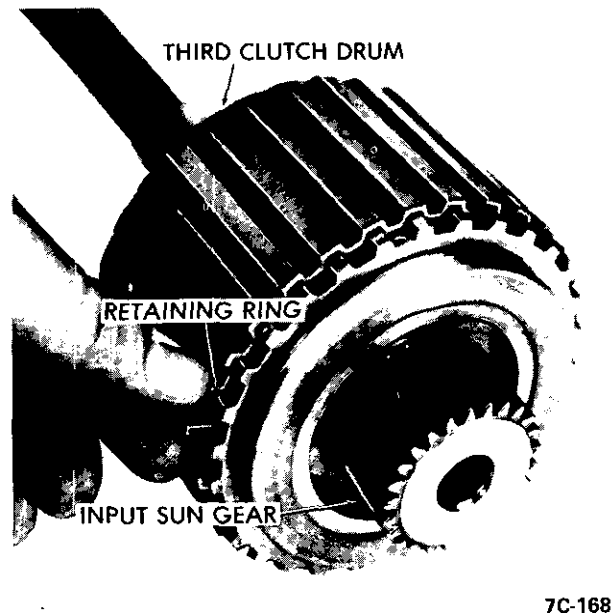

Figure 7C-168
2. Remove input sprag race and retainer assembly from third clutch hub and input sun gear assembly. See Figure 7C-169.